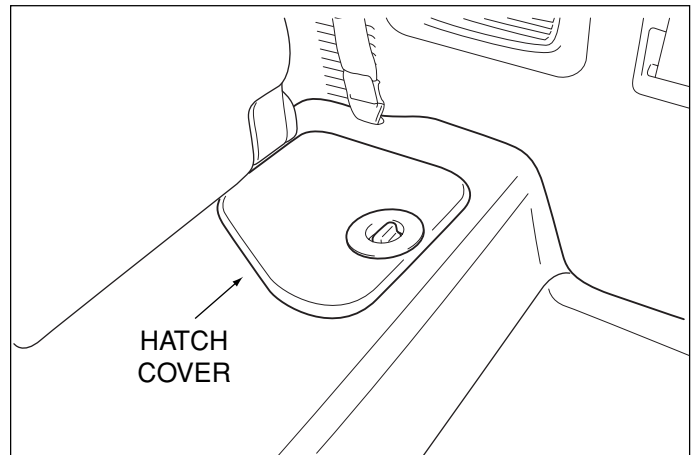

Fig. D2
- i. Remove jack hatch cover. (Fig. D2)